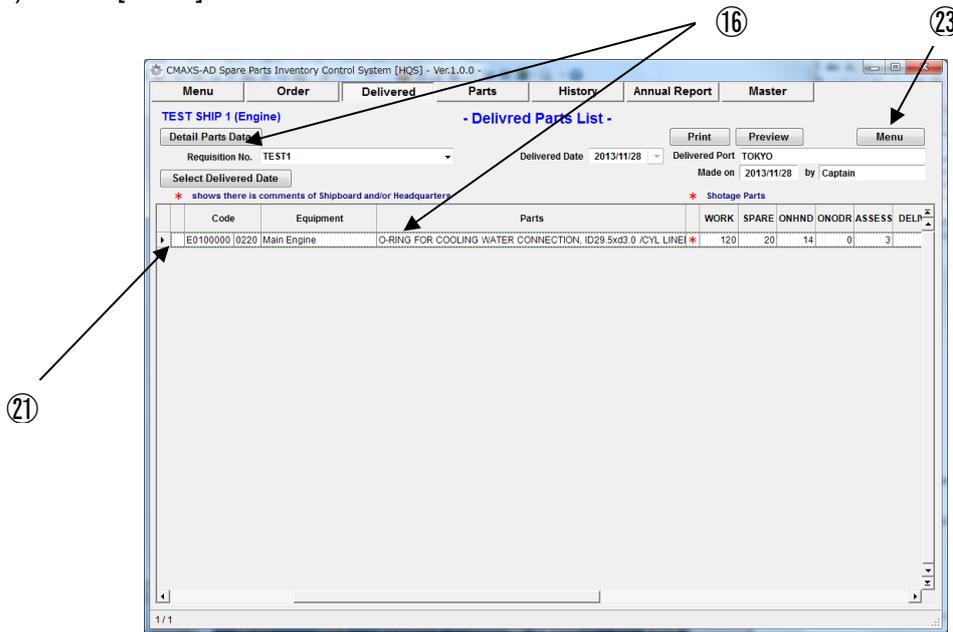

Fig.9-5 Delivered Parts List Screen
- (16) On the “Delivered Parts List Screen”(Fig.9-5),
- (18) If you want to print parts information, select [Print].
- (19) If you want to see preview, select [Preview]
- (20) Select [Close] to return to “Delivered Parts List Screen”(Fig.9-5).
- (21) If there is a comment from shipboard, [\*] is shown on left side potion.